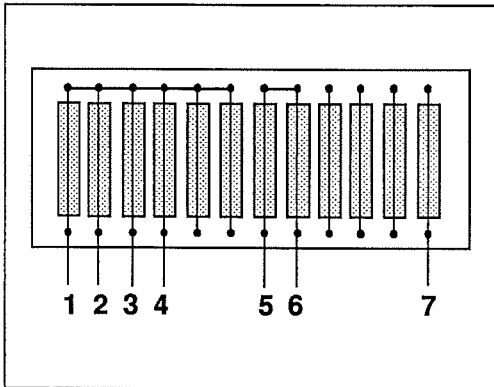

Fig. 13 Fuse box
Fuses for protection of electrical components, instruments and monitoring are concentrated in the fuse box (34), fig. 1. Check the fuses first in the event of malfunction. Figure 13 shows the identity of each fuse.